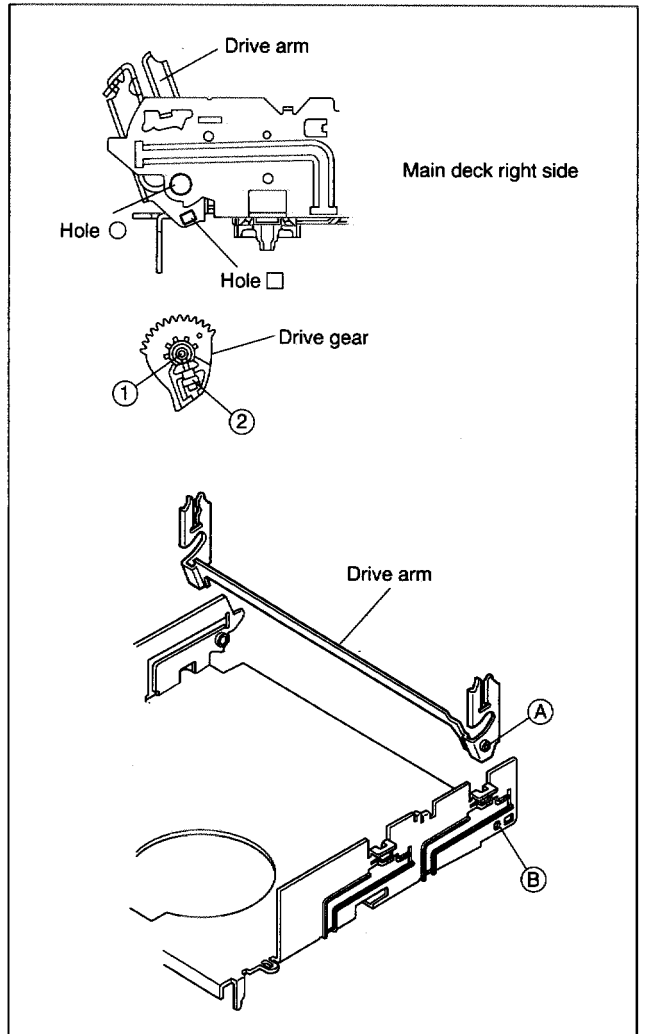

Fig. 2-2-7
- (1) Insert the section (A) of the drive arm into the section (B) of the main deck.
- (2) Insert the section (1) of the drive gear into the round hole, and the section (2) into the square hole on the drive arm. (See Fig.2-2-7.)